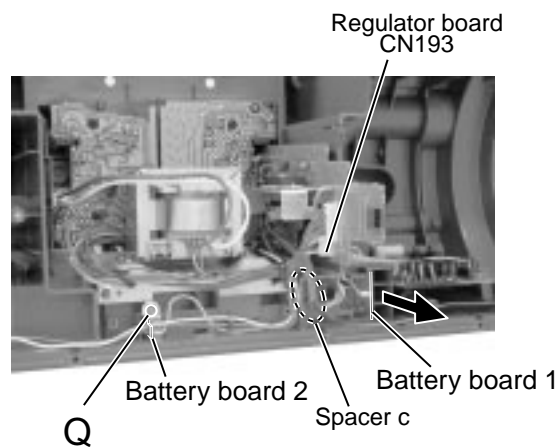

Fig.21
**■ Removing the battery board 1 and the battery board 2 (See Fig.21)**